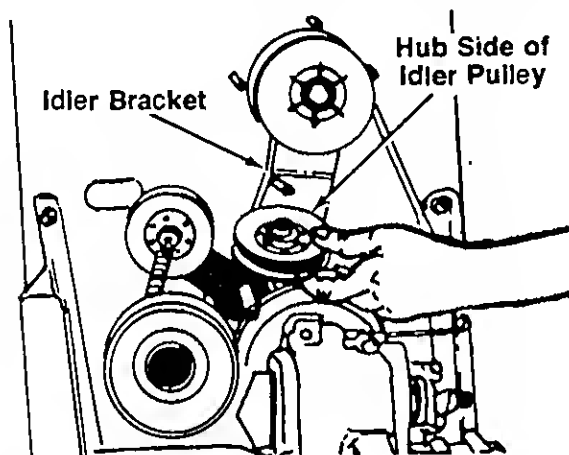

FIGURE 32.
10. Upon reassembly of idler pulley, be certain the hub side of idler goes against the idler bracket. See figure 32.